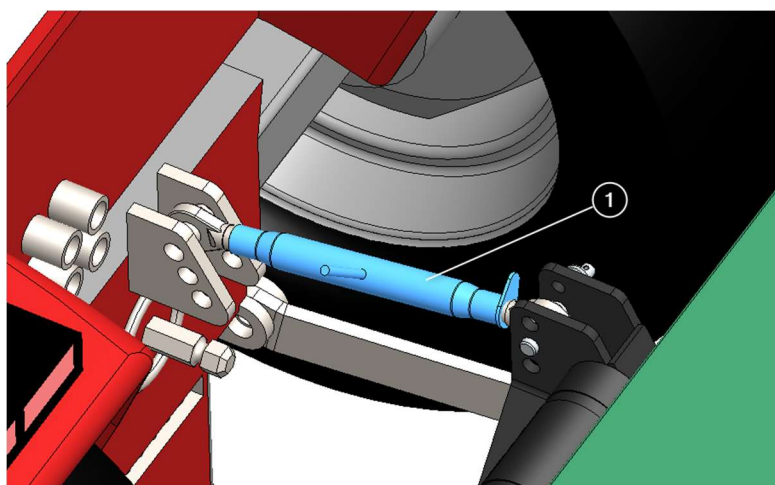

Fig. 7
For the fine setting you need to change the length of the top link (1). (Fig.7)